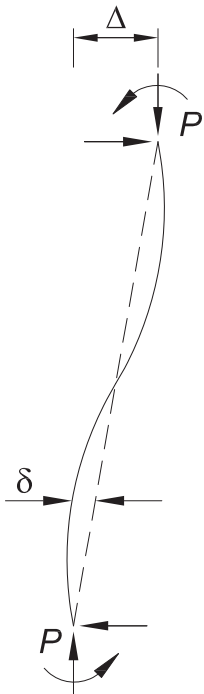

Fig. 3. Member and frame displacements. (This is Figure C-C2.1 from the AISC Specification.)
Member displacements are the displacements relative to a straight line between the member ends. Frame displacements are the displacements due to the lateral sidesway of the frame that a beam-column is a member of. The interaction of the member and frame displacements with the beam-column axial load (P) creates secondary moments that must be accounted for in beam-column design. Collectively, these P - δ and P - Δ secondary moments are called P -delta effects or second-order effects. See Figure 3.